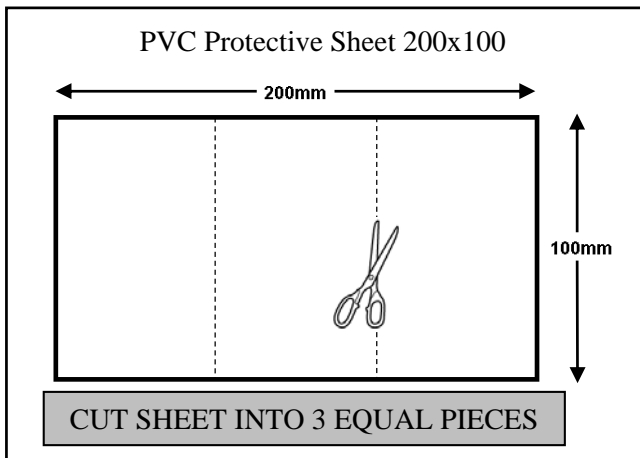

Figure 3-4
- b) Cut PVC Protective Sheet into 3 equal pieces. (Figure 3-4).